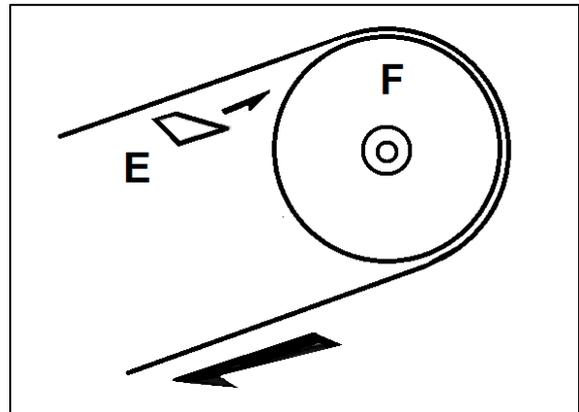

Figure 8-8: Blade Tracking Check
- When turning the set screw (D) clockwise, the blade will ride closer to the flange.
- When turning the set screw (D) counter-clockwise, the blade will ride away from the flange. If the blade rides too far then it will come off.
- Use a strip of scrap paper (E, Fig 8-8) and slide it between the blade and the flywheel (F).